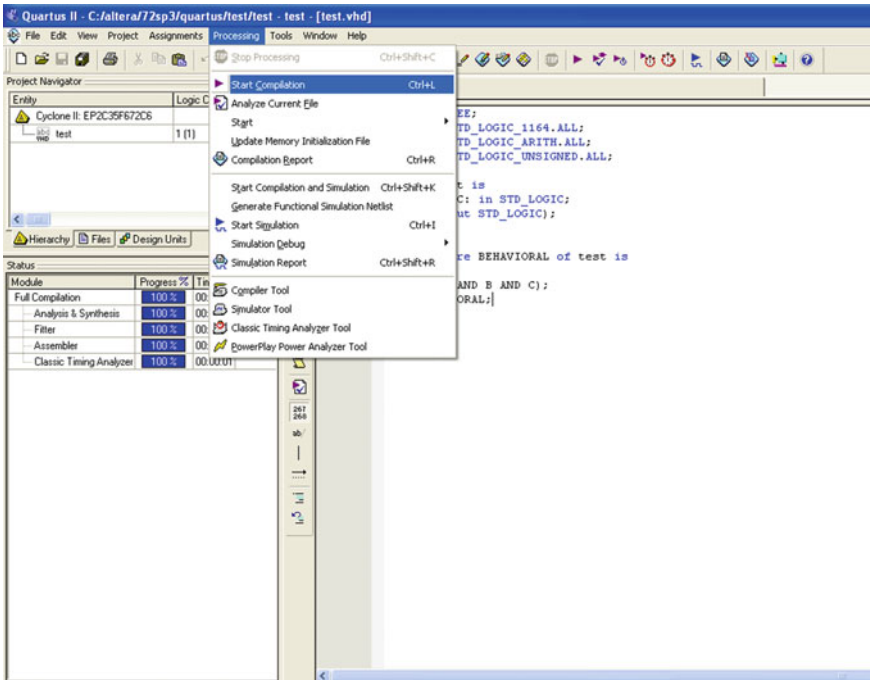

Fig. 2.7 Compilation of project
- (1) After completing the design, next step is to compile the design for errors.
- (2) Click on Processing tab → start compilation This is shown in Fig. 2.7.